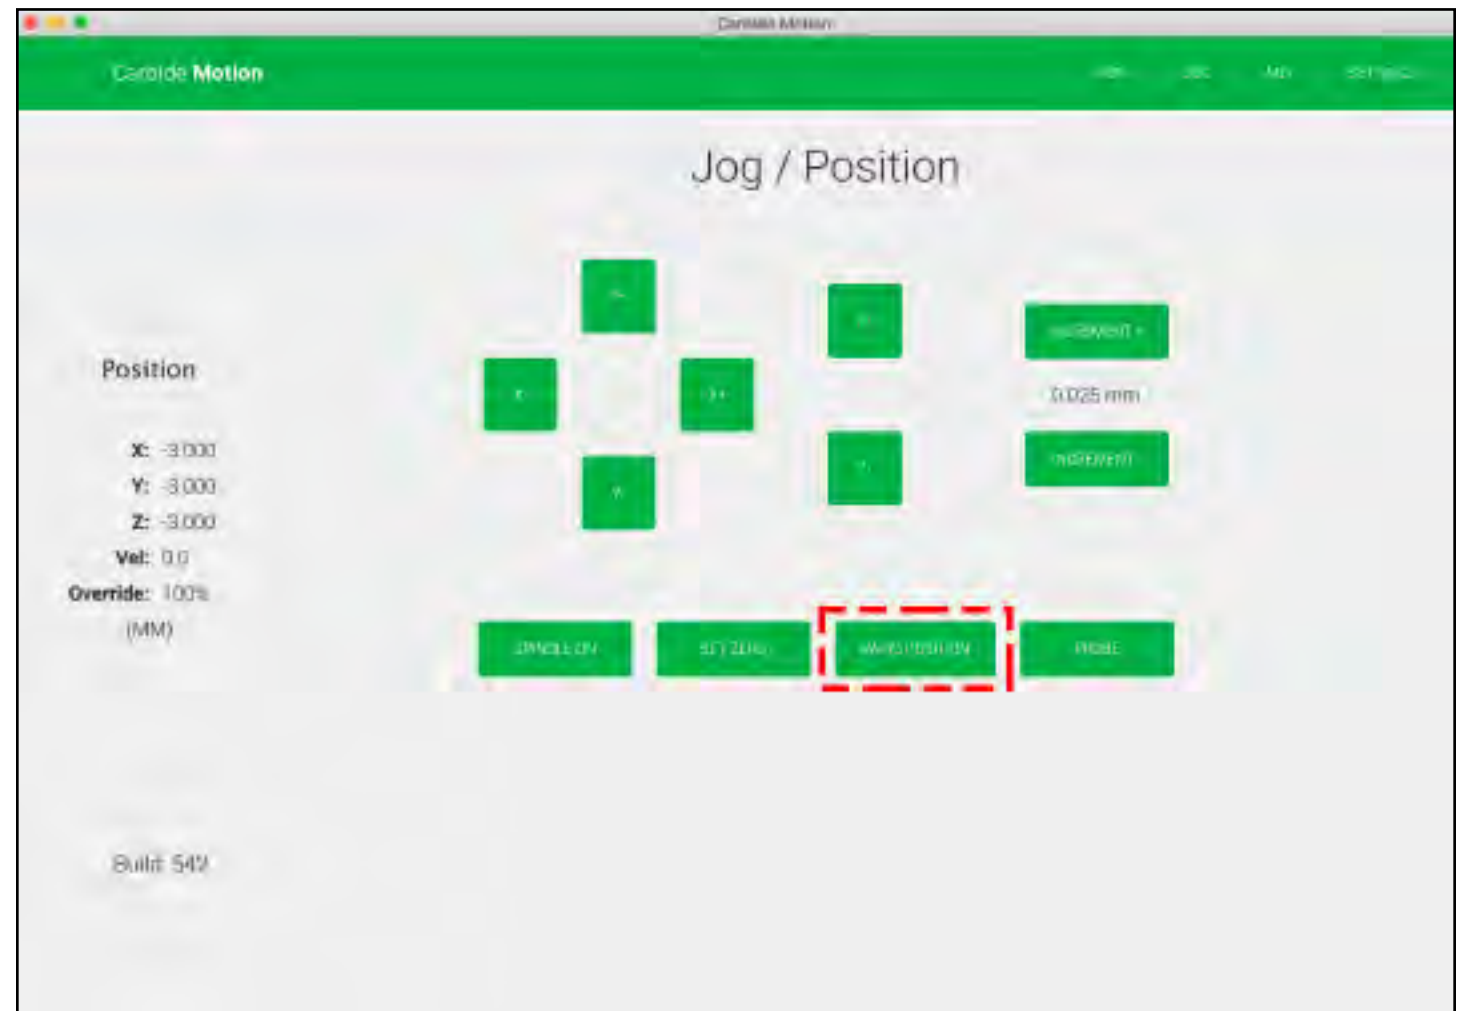

Figure 10-11
4. On the *Jog* screen, click the **Rapid Position** button. See **Fig. 10-11**.
7. On the *Jog* screen, use the **Y+ / Y-** and **X+ / X-** buttons (or the arrows on your keyboard) to jog the gantry so the router is directly above the BitSetter trigger button. See **Fig. 10-11**.